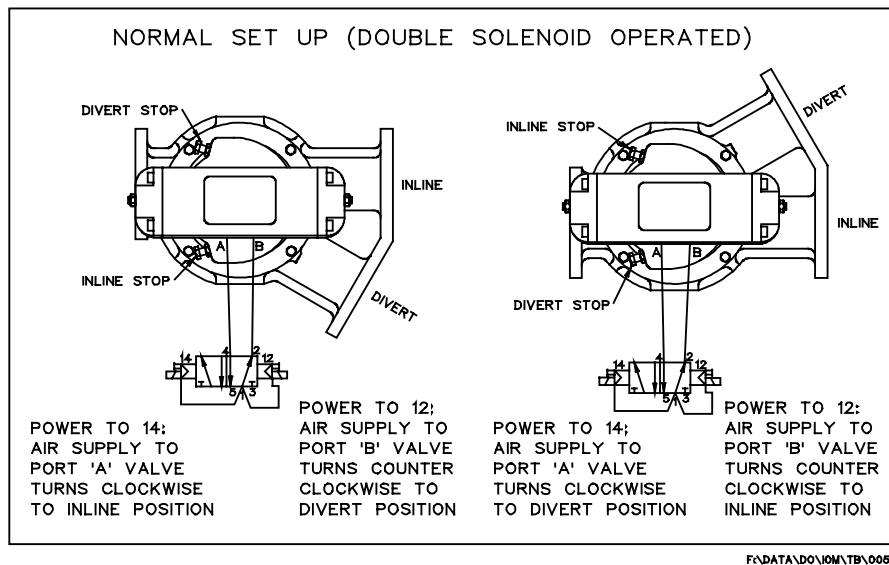

Fig 6
- 1.5 A double solenoid operated valve may be connected to the actuator, this will maintain the position of the valve in the event of a power failure (whichever that position may be), refer to figure 6.